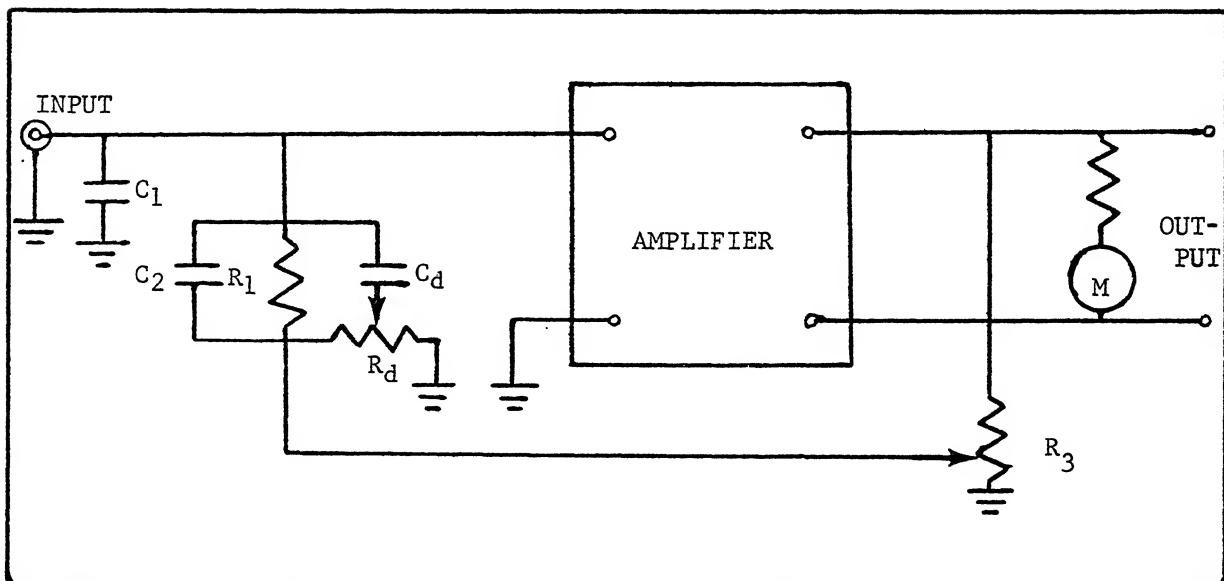

FIGURE 13. Feedback Network with Capacitance Indicated.
1. Referring to Figure 13, the time constant,  $T$ , of the circuit is